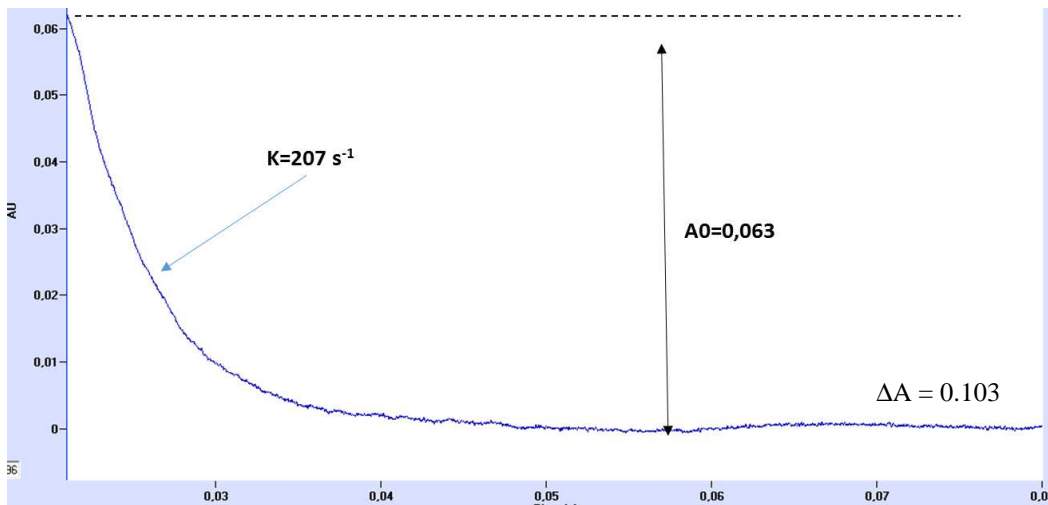

Figure 25: reduction at pH=2.
- The data obtained is shown in Figure 25.